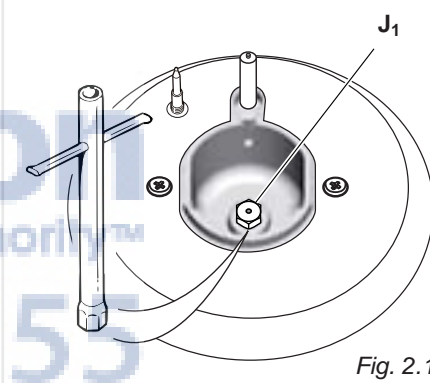

Fig. 2.11
- Using a wrench substitute the nozzle orifices "J₁", "J₂" and "J₃" (figs. 2.11, 2.12) with those most suitable for the kind of gas for which it is to be used.